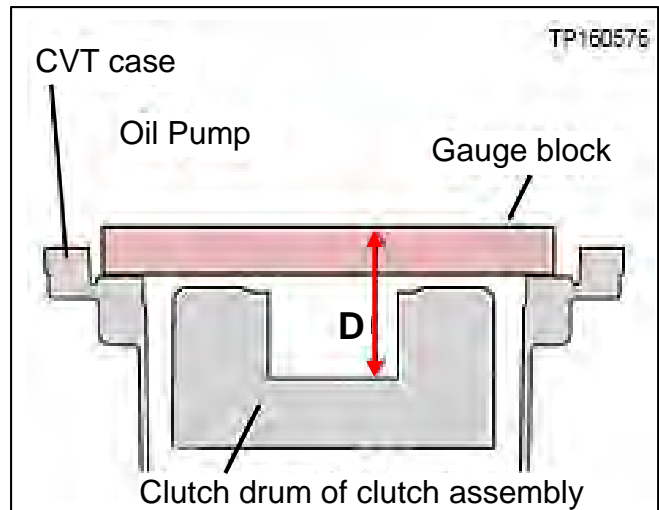

Figure 113
92. Calculate the average clutch assembly bore depth (D) (Figure 113) as follows: